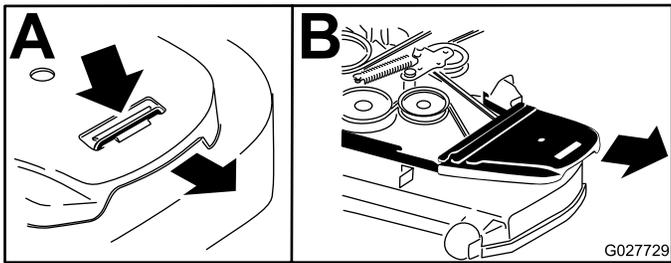

Figure 63
7. Remove the belt covers (Figure 63).